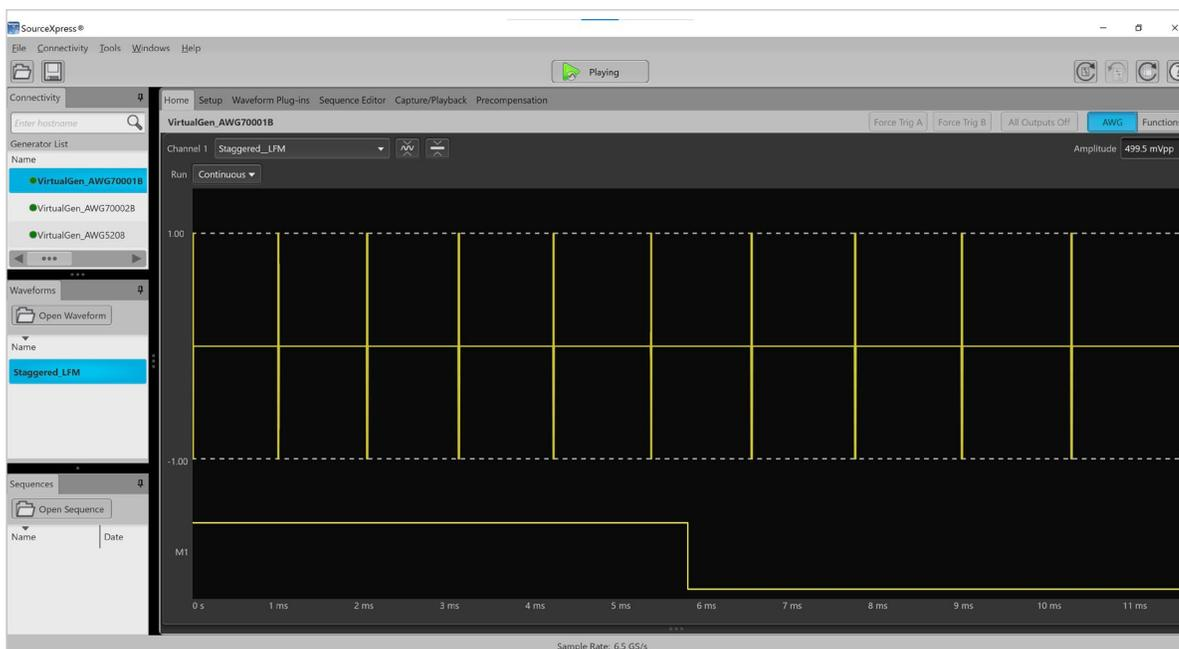

Figure 14: Staggered PRI full waveform view.
14. Click the **Home** tab. You should see a display similar to what is shown in Figure 14.
17. Go back to the **Home** tab. You can see that we do have the 10 pulses we specified in the radar Plugin Pulse Group #1 **Repeat** count. The initial PRI visually appears to be 1 ms, but you can see that by the end of the 10th PRI interval the waveform length is much longer than $(1 \text{ ms}) * (10) = 10 \text{ ms}$. Let’s verify the staggers on this screen.